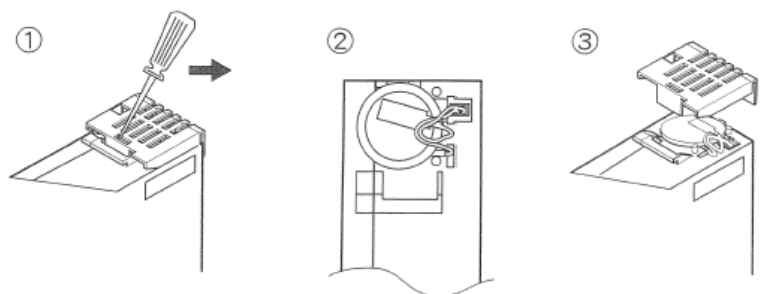

Fig. 18: Replacing the battery in the CPU assembly
- The charge level of the real time clock backup battery is registered by the system and reported, if necessary. In addition, we recommend replacing it every 12 months. To do this, replace the battery in the CPU assembly (see fig. 18).